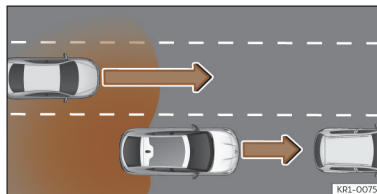

Fig. 146 Overtaking with traffic behind the vehicle.
- When being overtaken by another vehicle >>> **Fig. 146**.